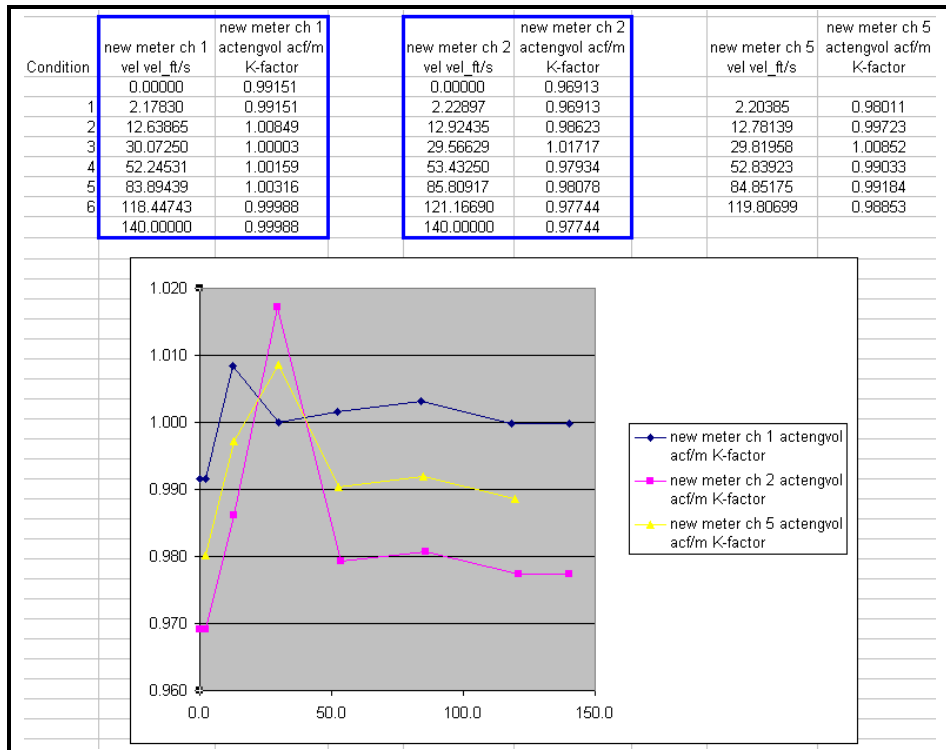

Figure 34: K-Factor Data Tab
**K-Factor Data tab:** This tab lists the k-factor table for each channel (1, 2, and averaged) for each calibration condition, specifically against the uncorrected channel velocity. The values for channels 1 and 2 (boxed in blue in Figure 34 on the next page) are the values that will ultimately be programmed into the meter. Plotting the k-factors vs. uncorrected channel velocities is advised, as doing so can show potential problems with the meter calibration (for instance, in this example, in Figure 34 below, there is a large spike for the third calibration point - this could be suspect).
Since the meter cannot extrapolate the k-factor table on its own, know that the value for the k-factor for 0 ft/sec (0 m/s) will be entered as that at the minimum calibration velocities for channels 1 and 2. Likewise, the value at 140 ft/sec (43 m/s) will be entered the same as that at the maximum calibration velocities for channels 1 and 2. These rows can be inserted into the Excel tables for future reference, as seen in Figure 34 above.